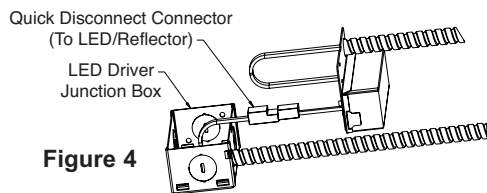

Figure 4
- Note:** Retrofit conduit whip assembly is provided with quick disconnect connector located in LED driver junction box. Connector can be disconnected to separate reflector from supply wire connection. This allows for easy installation of supply wire connection to retrofit without reflector interference. (Refer to Figure 4).
Driver replacement must be performed by a qualified electrician. Remove reflector trim assembly from rough-in section and disconnect driver junction box connector (Figure 4). Remove driver whip assembly from rough-in section junction box. Order replacement part number as identified on the driver.